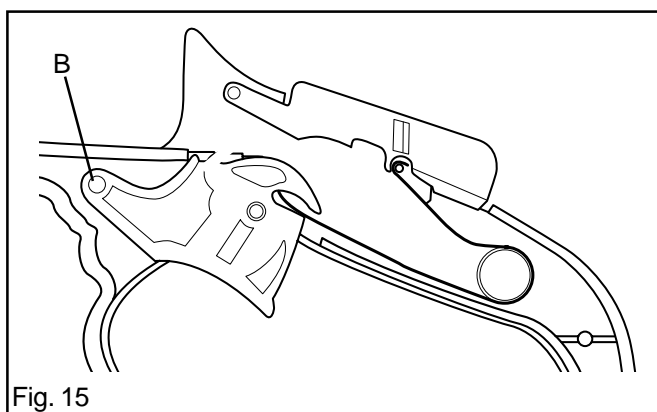

Fig. 15
5. Remove the throttle cable and lever. See fig.15.